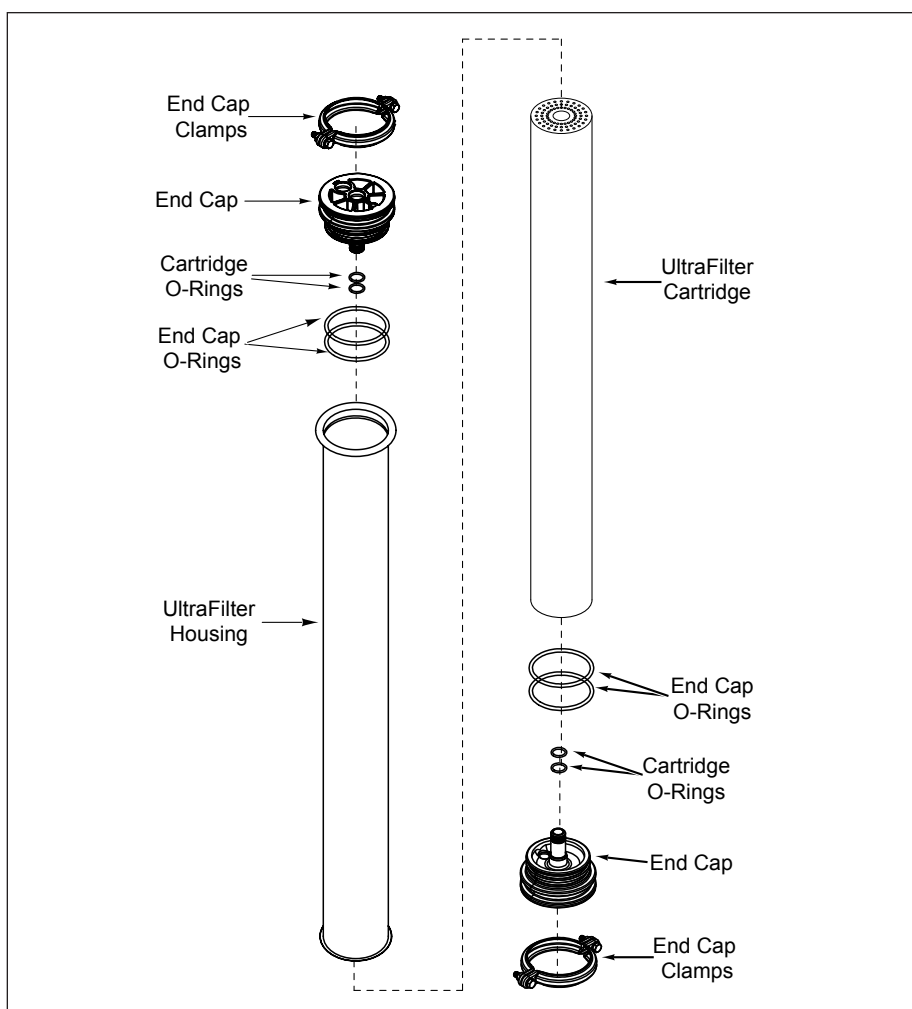

Figure 8. Replacing the UltraFilter Cartridge
4. Remove either End Cap clamp hardware from the UltraFilter Housing. (Figure 8)
7. Remove the End Cap (Figure 8) from the UltraFilter Housing.